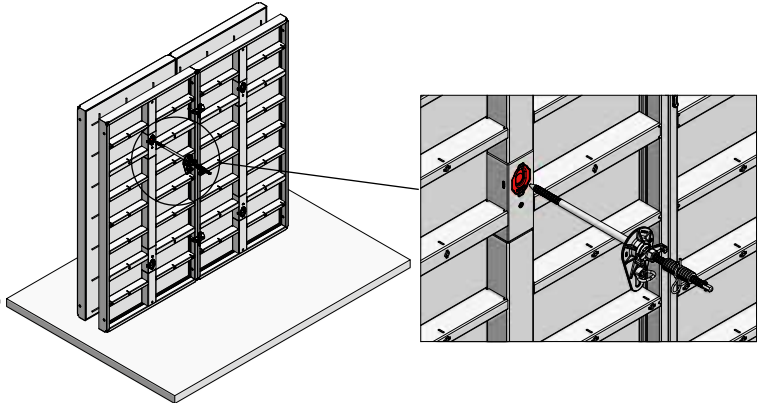

Fig. 24.4
4. Push the XT taper tie 20 or 23 through the combination tie hole of the final-formwork side and screw it fully into the combination tie hole of the initial-formwork panel using a ratchet spanner (WAF 17 or 19) (Fig. 24.4). An articulated flange nut on the initial-formwork side and a plastic tube are not required.